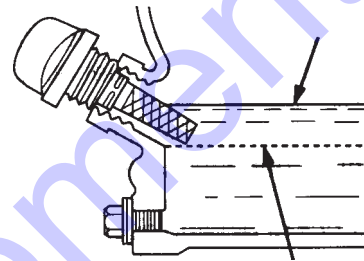

Figure 10. Engine Oil Dipstick (Oil Level)
4. If the oil level is low (Figure 10), fill to the edge of the oil filler hole with the recommended oil type (Table 6). Maximum oil capacity is 2.33 pints (1.09 liters)